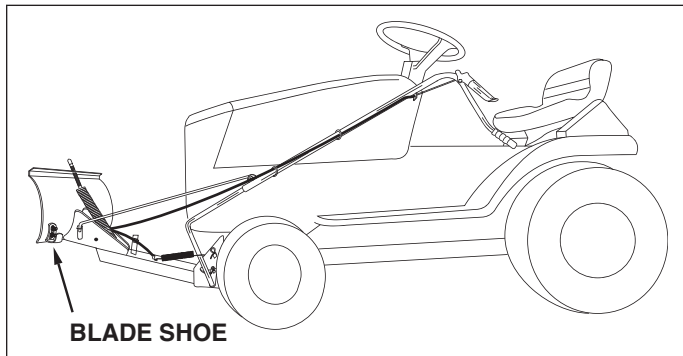

FIGURE 28
- The blade shoes at the ends of blade may be raised for close work on smooth surfaces or lowered to raise the blade to work on rough or uneven areas. Make sure both shoes are set evenly and that the nuts are tightened securely. See figure 28.